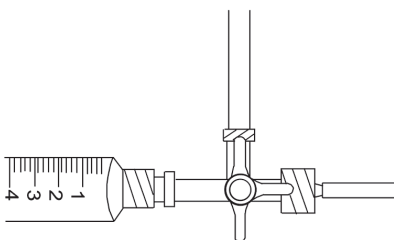

Figure A-7
1. After refilling the manometer, turn the stopcock to connect the manometer with the bath (Figure A-7).
- Turn the stopcock to connect the manometer to the valve (Figure A-7 above).